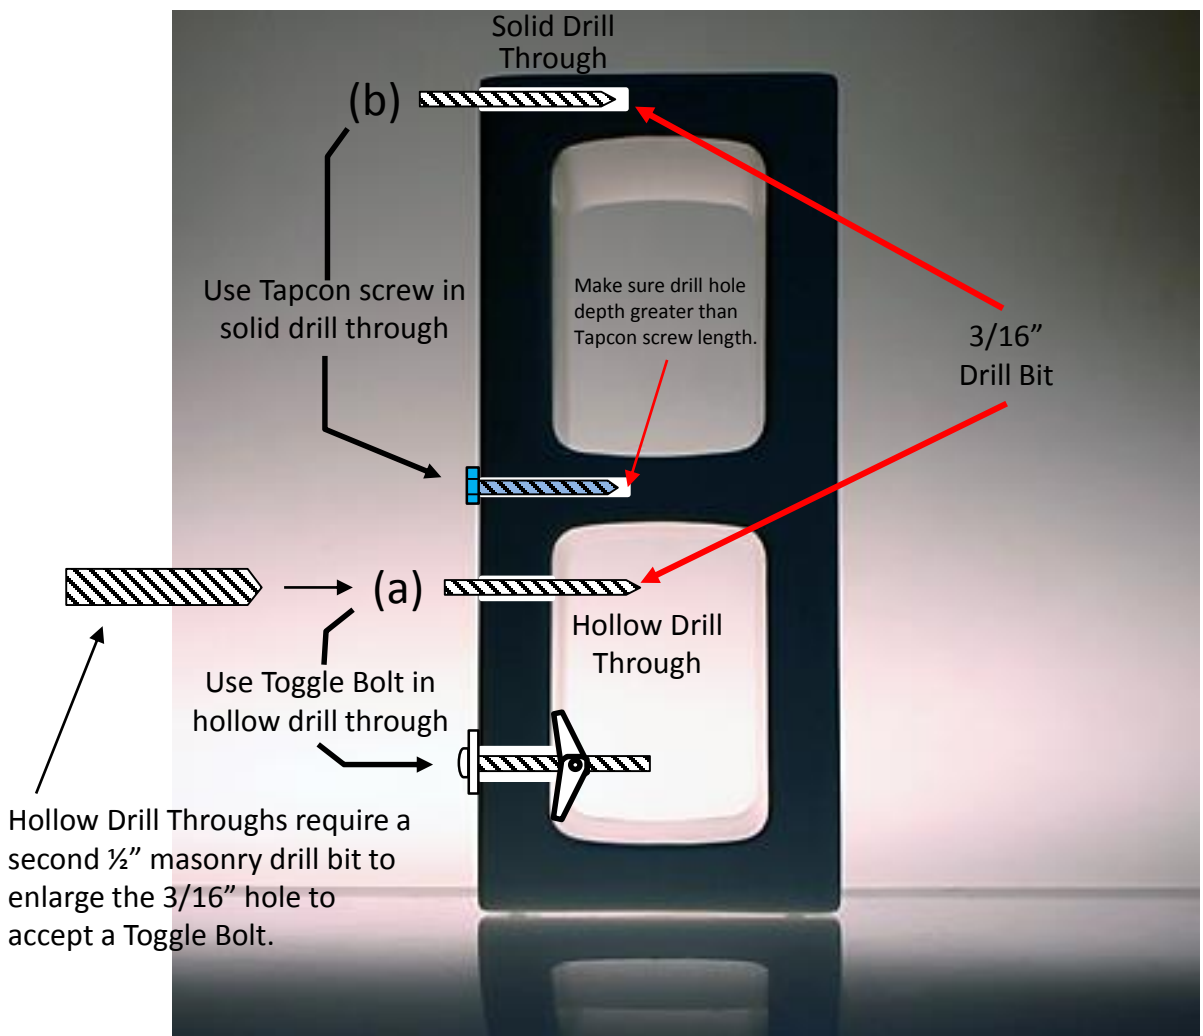

Figure 5 (Drilling Into Cinder Block)
Step 3 & 4 – Using the 3/16" masonry drill bit, drill out all eight mounting holes. Reference Figures 5 (Cinder Block), 5A (Solid Cement) & 6 and accompanying notes informing you that some drilled holes will break into hollow areas in the cinder block while other holes will be drilled into solid cement with no hollow. Each drilled hole that breaks into a hollow area will need to be marked and subsequently drilled out with the 1/2" masonry drill bit in Step 5 so that it may accept a Toggle fastener. Any hole that does not break into a hollow and it's complete drill depth is into solid material will require a Tapcon screw for that specific hole to secure the D-Ring. Note that some D-Rings may require a toggle bolt in one mounting hole and a Tapcon screw in the second mounting hole. Some D-Rings will require two Tapcon screws or two Toggle assemblies and bolts. **IMPORTANT** – Make sure all holes requiring Tapcon screws are drilled deeper than the length of the Tapcon screw! If the hole is not deep enough the Tapcon screw will bottom out in the hole before it can tighten against the D-Ring mounting latch.
Step 3 — In this step the 3/16" masonry drill bit supplied with your mounting kit will be used to drill out each of the eight holes marked in Step 2. Referencing Figure 5 below, when drilling into cinder block you may drill into a hollow (a) which will require a toggle bolt mount to secure the D-Ring to the wall. Or you will have to drill through solid cement for the complete depth of the mounting hole (b) which will require simple TapCon screws to mount the D-Ring. Do not use a TapCon screw on any hole that enters a hollow in the cinder block! You'll know you hit a hollow if after drilling about an inch into cement, the drill bit breaks through the hollow and the complete bit quickly sinks into the cinder block wall with no resistance. If you don't hit a hollow you will feel significant resistance as the drill bit cuts through cement for the entire depth of the mounting hole where a TapCon screw will be inserted to fasten the D-Ring assembly to the wall. All Hollow Drill Throughs will require to be drilled a second time with a ½" masonry bit to enlarge the initial 3/16" hole so that it may accept the larger diameter Toggle Bolt.
Important Note: When drilling each hole make sure you mark the holes that where “Hollow Drill Throughs” (see (a) Figure 5) as those holes will require Toggle Bolts and must be drilled out a second time with a 1/2” masonry bit which is provided with the Cinder Block mounting kit. The holes that are “Solid Drill Throughs” (see (b) Figure 5) will require Tapcon screws and will need to be drilled at least 3 inches deep into the concrete with the 3/16” drill bit so that the Tapcon screw can fully screw into the cement.
Step 3 & 4 – Using the 3/16" masonry drill bit, drill out all eight mounting holes. Reference Figures 5 & 6 and accompanying notes informing you that some drilled holes will break into hollow areas in the cinder block while other holes will be drilled into solid cement with no hollow. Each drilled hole that breaks into a hollow area will need to be marked and subsequently drilled out with the 1/2" masonry drill bit in Step 5 so that it may accept a Toggle fastener. Any hole that does not break into a hollow and it's complete drill depth is into solid material will require a Tapcon screw for that specific hole to secure the D-Ring. Note that some D-Rings may require a toggle bolt in one mounting hole and a Tapcon screw in the second mounting hole. Some D-Rings will require two Tapcon screws or two Toggle assemblies and bolts. **IMPORTANT** – Make sure all holes requiring Tapcon screws are drilled deeper than the length of the Tapcon screw! If the hole is not deep enough the Tapcon screw will bottom out in the hole before it can tighten against the D-Ring mounting latch.